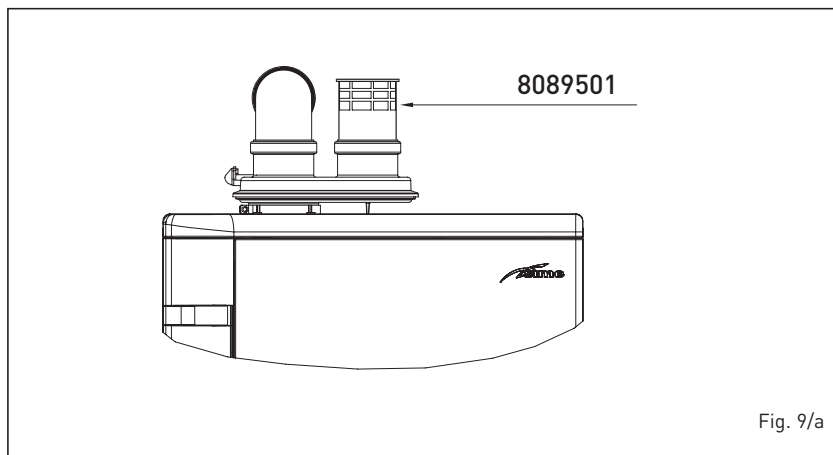

Fig. 9/a
2.7 DESCARGA FORZADA TIPO B23P-B53P (fig. 9/a)